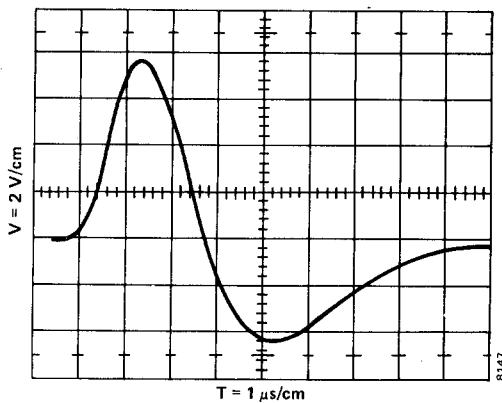

Fig. 1.7. Correct Amplifier Bipolar Output.
5. With all other settings the same, switch the 575A output to bipolar. The correct output pulse should look like the pulse shown in Fig. 1.7. (Retrigger oscilloscope if necessary.)